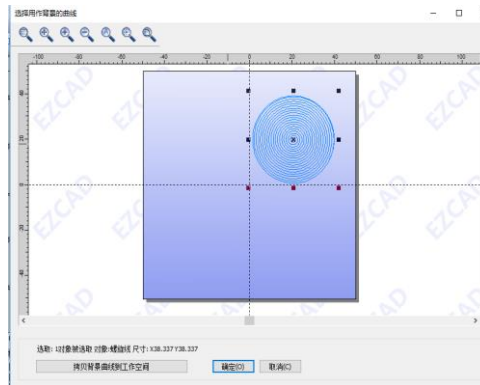

Figure 8.5 Selecting the fill background
- (4) Select Enable, click the fill type in the rectangle until the display is background (the icon is the same as the rectangle);
- (5) Click on the word “background” below the rectangle to display the interface shown in Figure 8.5.